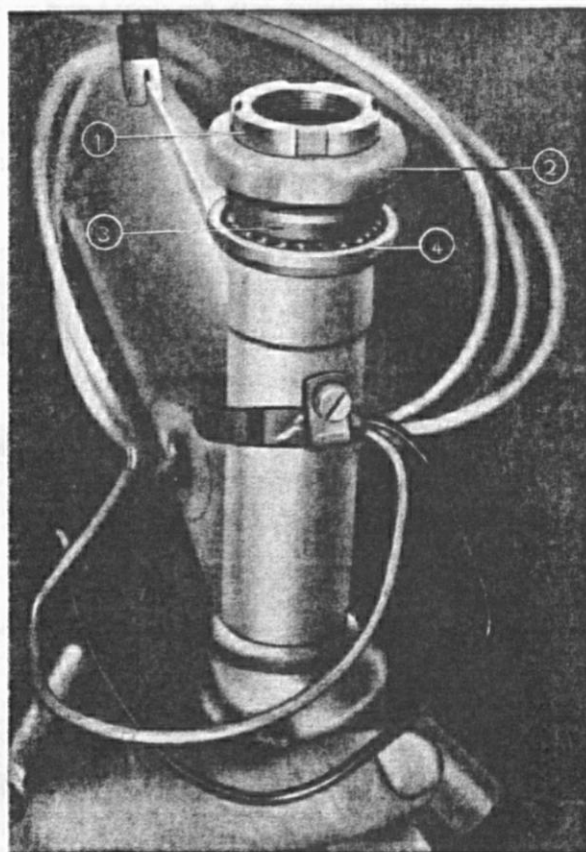

Fig. 24: Removing the front fork
6. Removing the fork from the steering head: Unscrew adjusting nut (Fig. 24/1) of the steering head, lift dust cap (Fig. 24/2), remove cone (Fig. 24/3), and pull out fork downward, taking care not to lose any of the balls of the bottom steering bearing.
This is done in reversed order of the removal. Worn steering bearing cups (seats) (Fig. 24/4) must be replaced, and new balls (21 each) should be put into the new bearings. Press the bearing cups right up to their shoulders into the frame tube, taking care not to cant them.